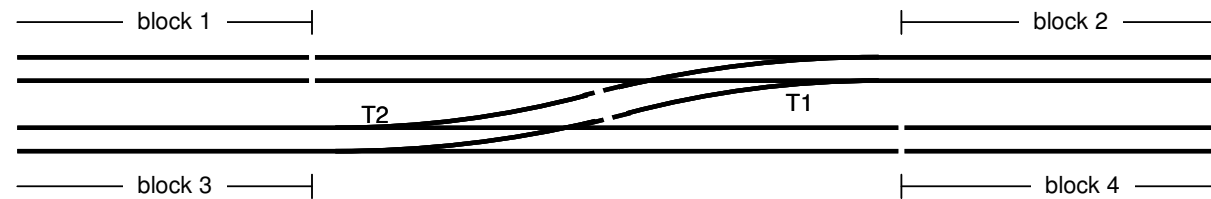

Fig 31: Attaching turnouts to an adjacent block
1. If you are using 'full detection', which means all axles of all your rolling stock shall draw some current from the tracks, your software can determine, if it supports this feature, in which block and section something is present. So, for instance, your software can see that a turnout-section is completely free before it is reserved for another train. In this case it is important that 'free' means 'truly free' and not that the last tiny part of your train still 'hangs over' the turnout. Therefore always keep some distance between the block-separation and the adjacent turnout, as shown in figure 31.